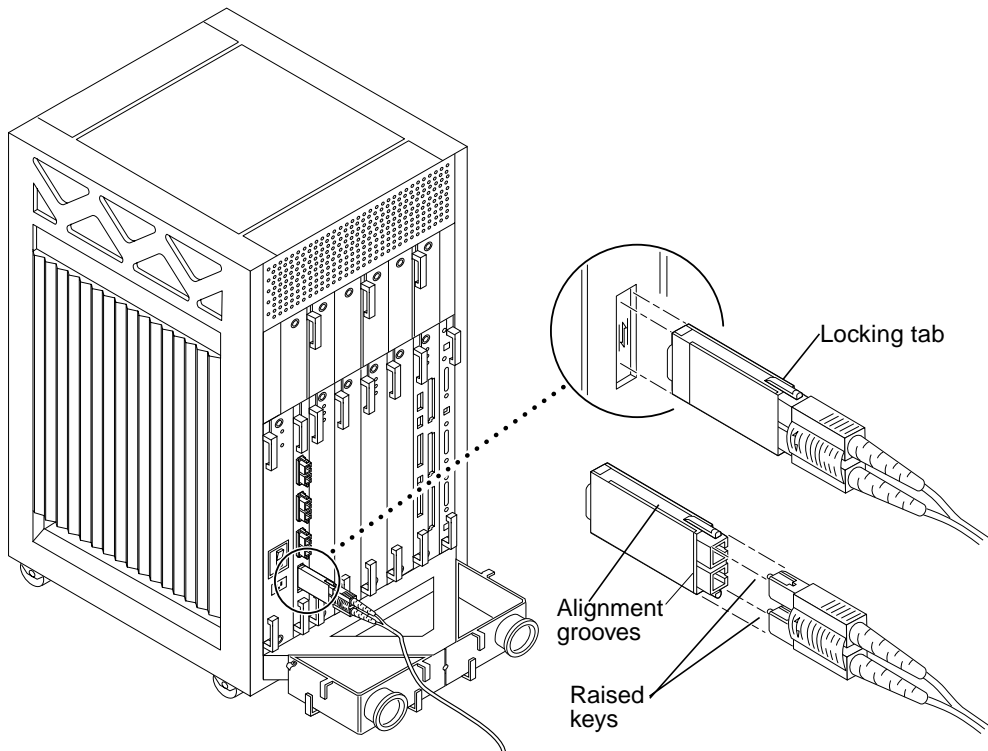

FIGURE 6-3 Removal of Fiber Optic Cable and GBIC
1. **Unfasten any fiber optic cables from the board front panel and set them aside (FIGURE 6-3).**
To remove a GBIC, first remove the fiber optic cable as shown in FIGURE 6-3. Then compress the two locking tabs while pulling the GBIC straight out as depicted in FIGURE 6-3.
Ensure that the orientation of the alignment groove is correct (FIGURE 6-3) and then reinsert the GBIC into the proper slot. Reconnect the fiber optic cable as depicted in FIGURE 6-3 (keys on cable matching notches on the GBIC).